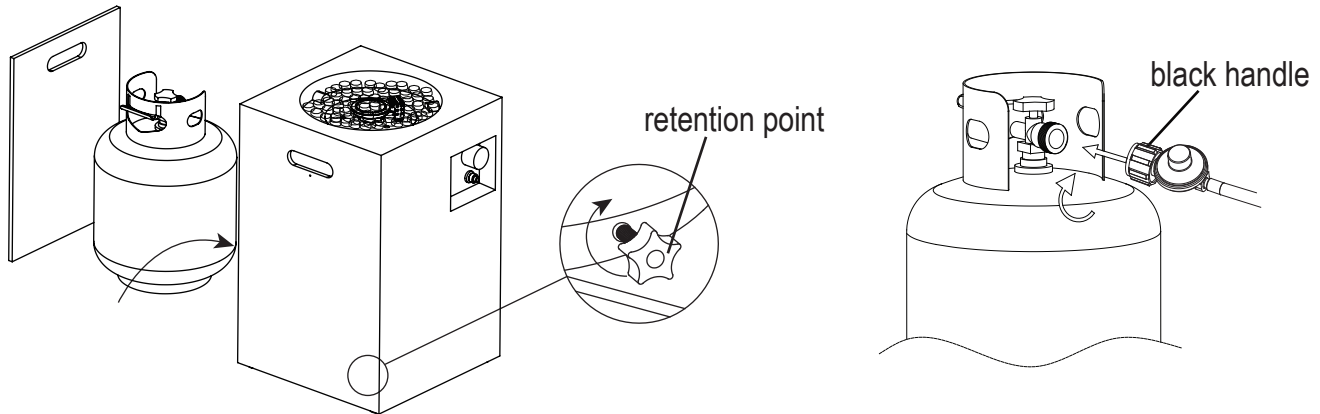

Figure 3
3. Place the gas cylinder into the gas cylinder support and connect the regulator by turning the black handle clockwise to tighten. To remove the regulator, turn the black handle counter-clockwise. Secure the gas cylinder by tightening clockwise the retention point found on gas cylinder support (see Figure 3), so that the gas cylinder cannot move from side to side or fall down. The knob on the control panel is turned all the way to the "OFF" position when the fire pit is NOT in use.